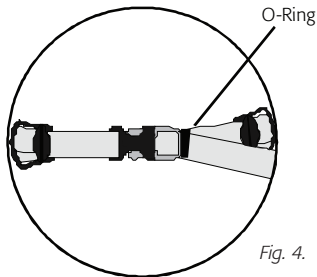

Fig. 4.
- *Fig. 4* shows how the chin strap also plays an important part role in orientating the helmet. Adjust the length of the strap and the location of the buckle to create a comfortable, yet firm tightness around your chin and head.